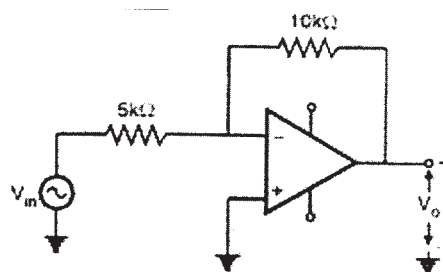

Figure 3
- c) Explain the effect of offset voltage on active filter performance. The input to the inverter shown in Fig. 3 is a sine wave of amplitude 5 volt. If the slew rate of the op amp is 1V/sec , find the frequency at which the slew rate limiting occurs. [6]